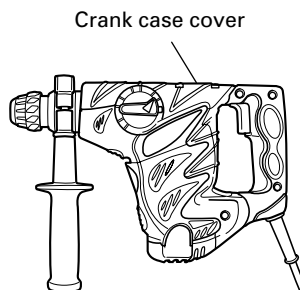

Fig. 20
- (1) Disassemble the crank case cover and thoroughly wipe off the old grease inside. (Fig. 20)
- (2) Supply 1.0 oz (30g) of Hitachi Electric Hammer Grease A (standard accessory, contained in tube) in the crank case.
- (3) After replacing the grease, reassemble the crank case cover securely. At this time, do not damage or lose the oil seal.